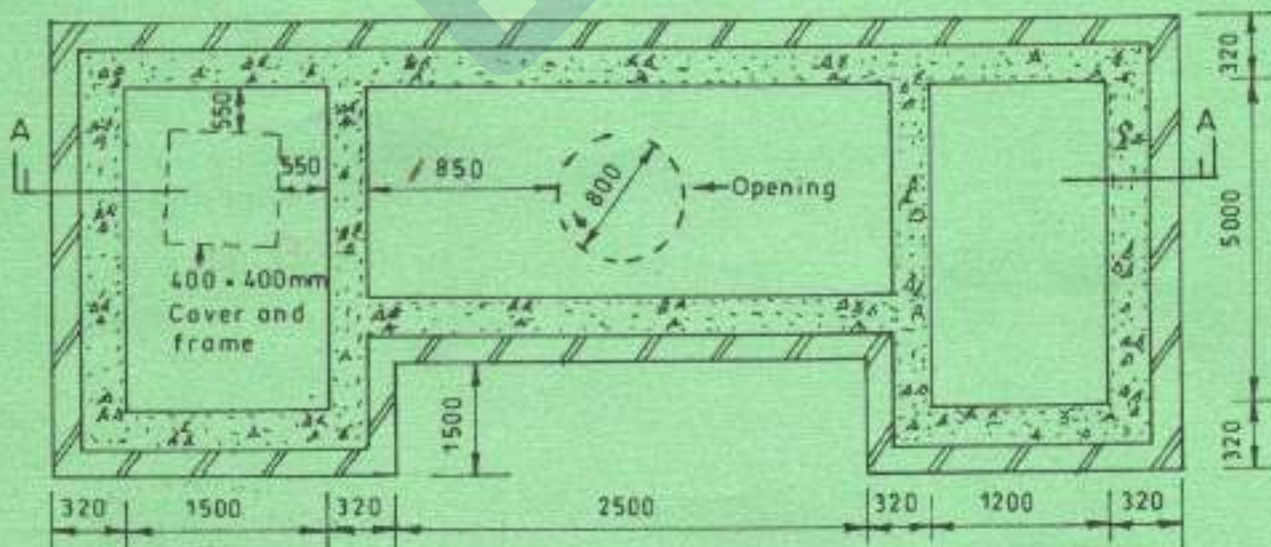

Fig. 1
4. Figure 1 shows the plan of a basement floor. To a scale of 1:25 draw section A - A using the following information.